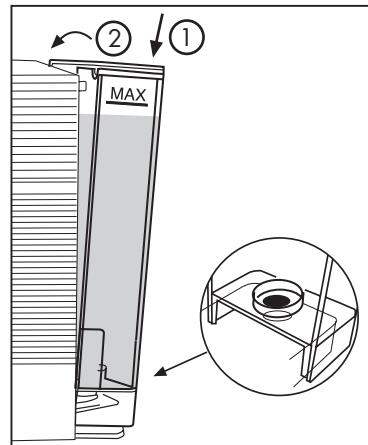

Fig. 3
- Insert the tank, tilting it slightly and resting it on the water valve. Press the top of the machine until you hear a click. **(Fig.3)**